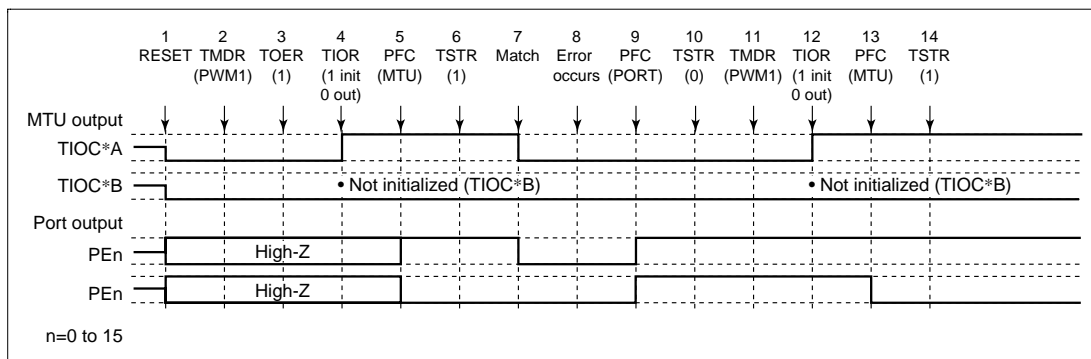

Figure 12.103 Error Occurrence in PWM Mode 1, Recovery in PWM Mode 1
(8) Operation when Error Occurs during PWM Mode 1 Operation, and Operation is Restarted in PWM Mode 1: Figure 12.103 shows an explanatory diagram of the case where an error occurs in PWM mode 1 and operation is restarted in PWM mode 1 after re-setting.